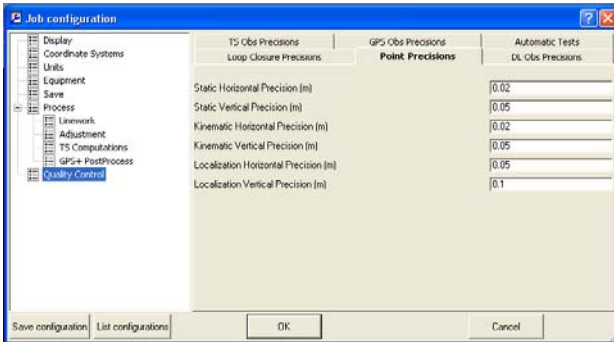

Figure 2-31. Job Configuration – Point Precisions
- The *Point Precisions* tab sets horizontal and vertical precisions for the coordinates of static, kinematic and localization points (Figure 2-31). If horizontal (*Std Dev Hz*) and vertical (*Std Dev u*) residuals for a point are worse than the value in the settings in this tab, the point is highlighted in red in the *Points* tab, in Map view, and in Reports.